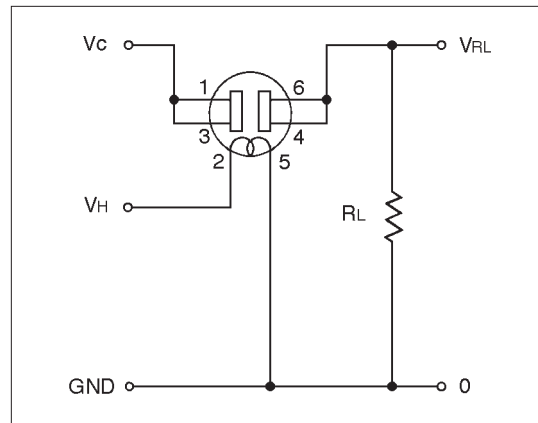
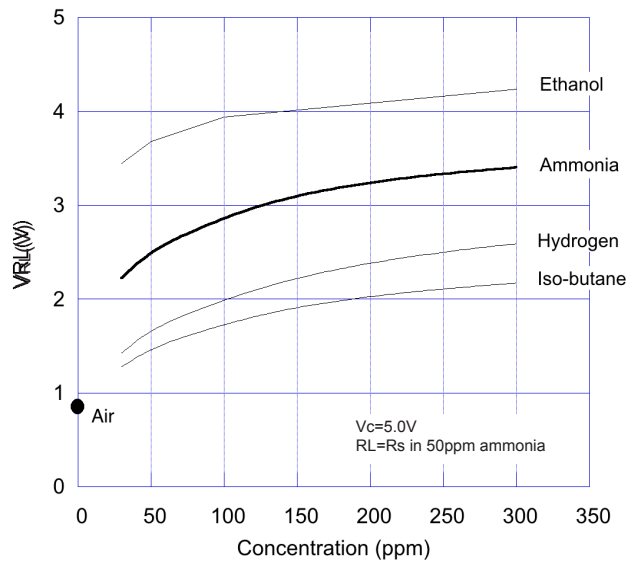

Fig. 2 - Basic measuring circuit (pin #2 is indicated by a white dot on the sensor's base)
Fig. 5 - Sensitivity to various gases (V_{RL})
Figure 2 shows the basic measuring circuit for use with TGS826. Circuit voltage (Vc) is applied across the sensor element which has a resistance between the sensor's two electrodes and the load resistor (RL) connected in series. The sensor signal (VRL) is measured indirectly as a change in voltage across the RL. Since the sensor has a polarity, DC voltage should always be applied for circuit voltage (a white dot indicates pin #2). The Rs is obtained from the formula shown at the right.
Using the basic measuring circuit illustrated in Figure 2, together with a matched RL value equivalent to the R_s value in 50ppm of ammonia, will provide the sensor output voltage (V_{RL}) change as shown in Figure 5.